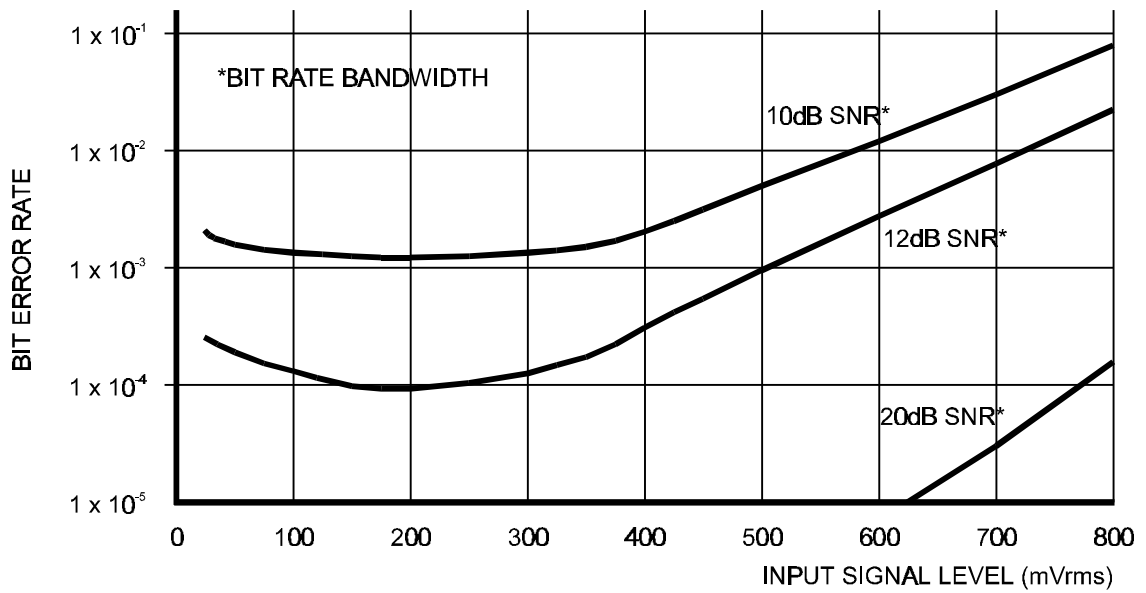

Figure 13 Typical Variation of Bit Error Rate with Input Signal Level
- See Figure 13 (variation of BER with Input Signal Level).